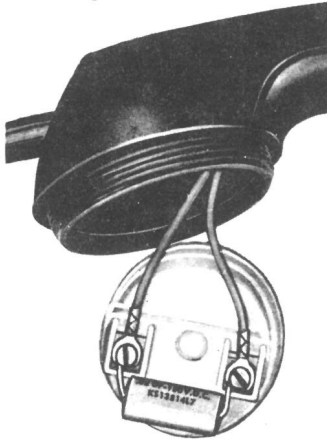

FIGURE 15. KS-13814, List 7 Capacitor, Handset Transmitter Cup
- 7.06 The KS-13814, List 7 capacitor may be placed inside the G type handset to bypass the transmitter unit as shown in Figure 15. Place the capacitor against the transmitter cup, keeping the capacitor leads as short as possible.